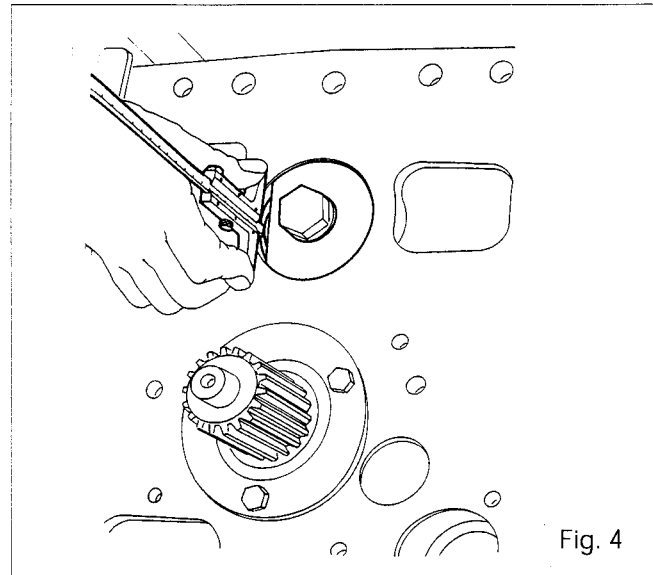

Fig. 4
23. Shim the layshaft (see Fig. 4) to obtain a play of :